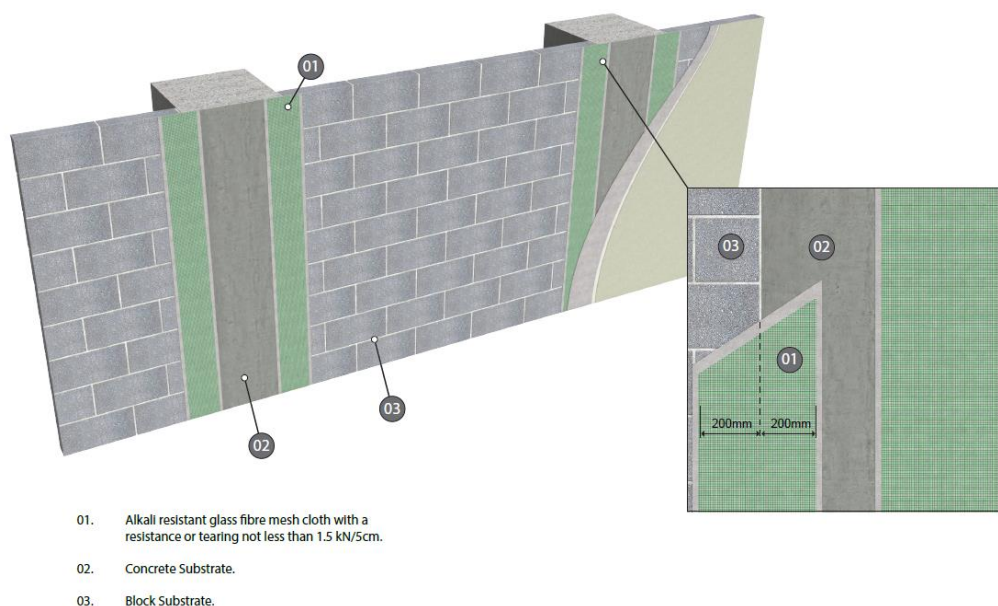

Figure 9 - Meshing across dissimilar backgrounds
- Embedment of an alkali resistant mesh cloth in the undercoat (in the first pass for KPRO Façade UNO and KPRO Façade DuraRend) with a **minimum 200mm overlap**. (Figure 9)